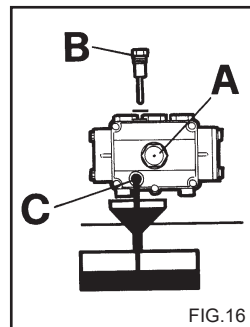

FIG. 16
- 2) Unscrew the cap with the dipstick (fig. 16).